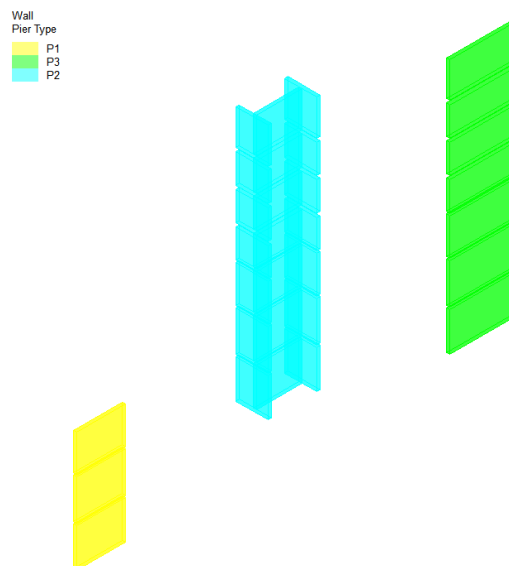

FIGURE 16-2
- In the *Results View* panel, go to the *Colorize* tab and select **Walls – Pier Type**. **FIGURE 16-2** shows this selected view setting.